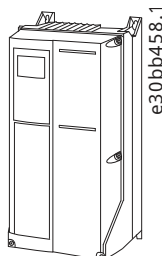

Figure 8: FC-Drive: IP55
8.1 Introduction to Recommendations and Figure 8 are examples of IP20 and IP55/IP66 drives.